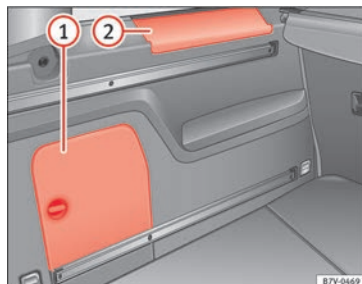

Fig. 186 In the luggage compartment: Side storage compartment
There are other compartments » Fig. 186 ① and ② in the side of the boot. To open the compartment ①, turn the catch clockwise. To open the compartment ②, lift the cover. Compartment ① houses the factory fitted **CD changer**. The compartment lid ① can safely store the tray support covers.